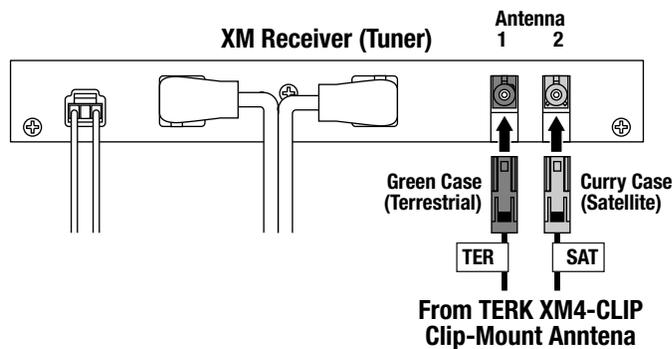

Figure 7. Wiring diagram shows antenna connections to an XM receiver.
5. If the XM system is not already installed, temporarily connect power and ground. Then connect the XM4-CLIP antenna cables to your XM receiver, as directed by the receiver's manufacturer (see Figure 7 on page 8).